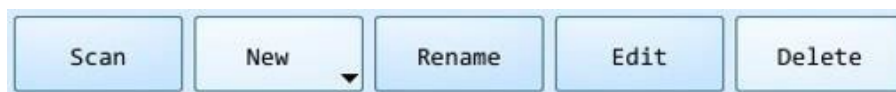

Figure 3.2c Experiment File Interface - File action bar
3. **File action bar:** consists of < **New** >, < **Rename** >, < **Edit** > and < **Delete** > five function keys, as shown in figure 3.2c.